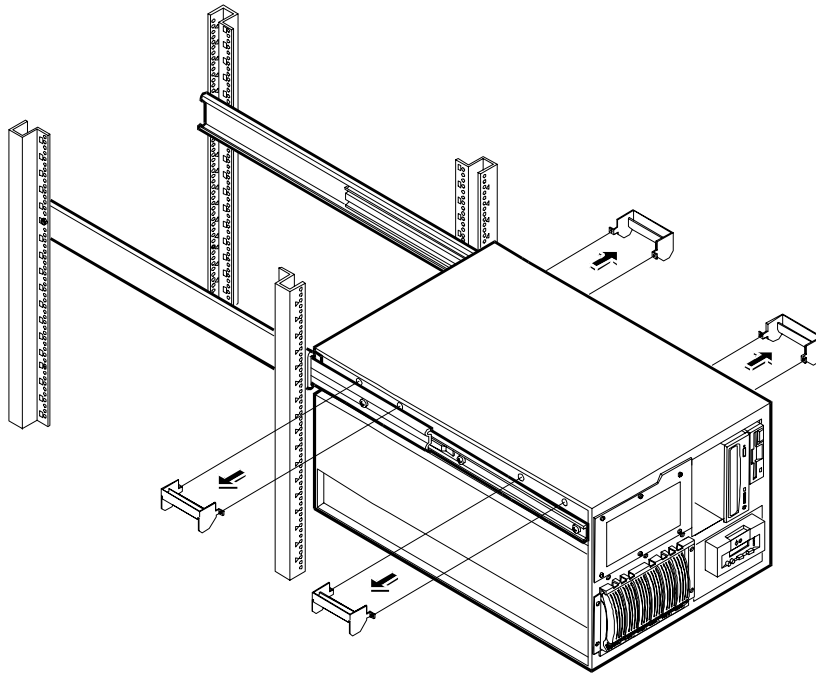

Figure 8-15. Remove Mounting Handles
7. Remove two screws from each handle and take them off the server. See Figure 8-15. HP recommends that you retain these handles and the associated screws in case of removal and reshipping of the server.